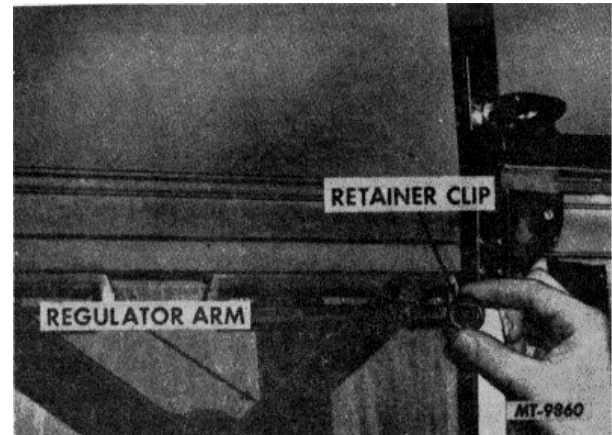

Fig. 9
10. Remove retaining clip from regulator arms, Fig. 9